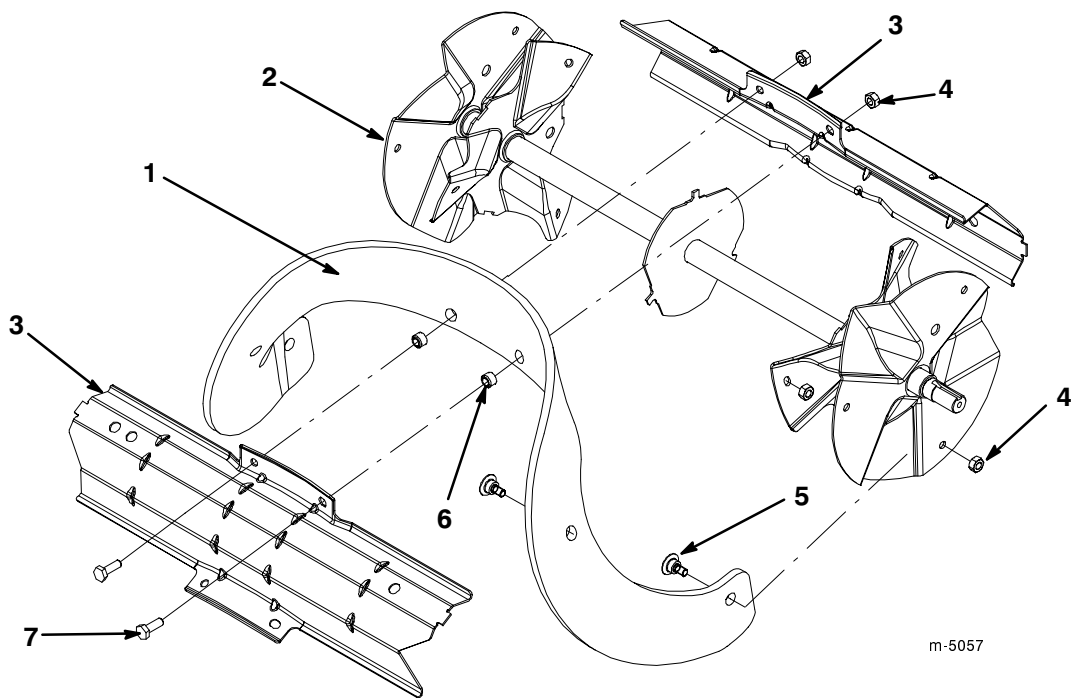

Figure 15
1. Remove the four torx screws and the four locknuts that secure the outer edges of the rotor blade to the rotor assembly (Fig. 15).
2. Remove the two hex-head cap screws and two locknuts that secure the center of the rotor blade to the rotor drum (Fig. 15).
3. Slide the rotor blade out from between the rotor drum parts (Fig. 15).
3. Secure the rotor blade to the rotor drum parts with the two hex-head cap screws and two locknuts that you previously removed. Position the bolt heads on the thick rubber side of the rotor blade (Fig. 15).
4. Curve the rotor blade and secure it with the remaining torx screws and locknuts, positioning the screw heads on the thick rubber side of the rotor blade (Fig. 15).